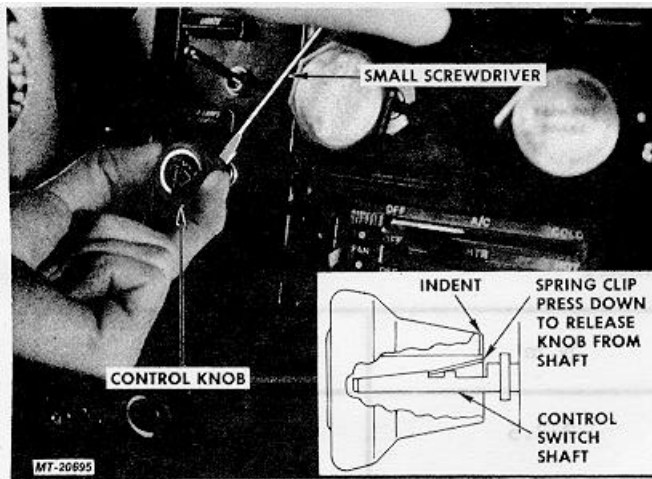

Fig. 6 Removing Control Knob from Switch
1. Remove control knob for electric control switch by depressing retaining clip on back of knob with offset or small screwdriver (Fig. 6).